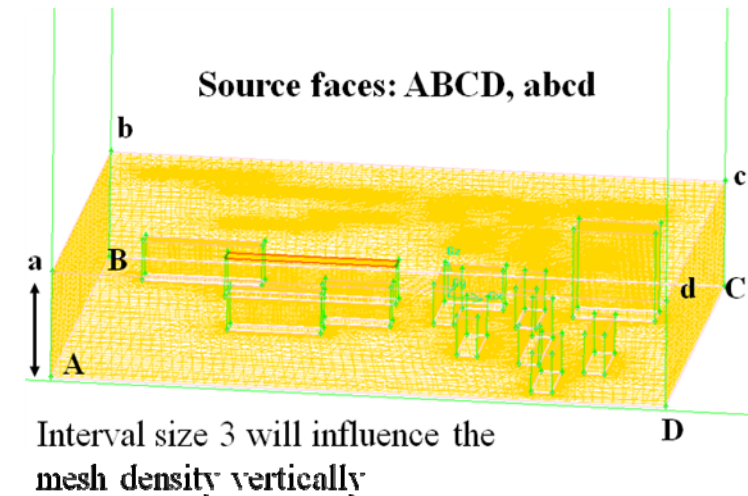

Fig. 37 The meshed volume 'domain small'.
⑤ select Hex/Wedge as elements, cooper as mesh type.
⑥\* Pick sources faces ABCD and abcd (see Fig. 37).
⑦\* Key in an interval size of 3.
⑧ Apply